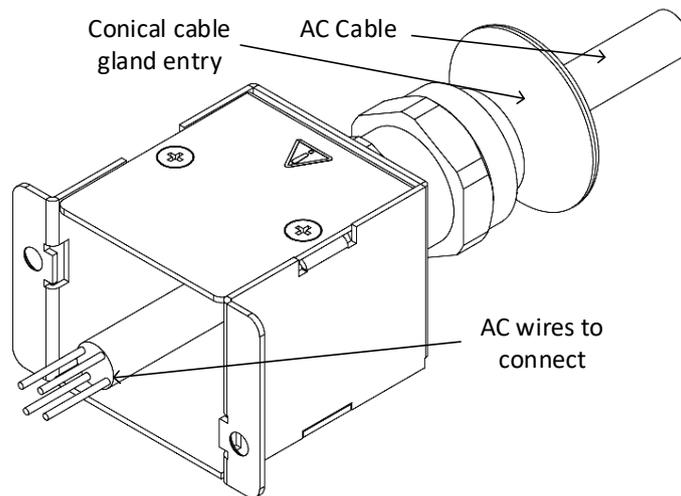

Figure 4-22: Stripped Wires Inserted Through
5. Insert the AC cable through the conic cable gland entry and the strain relief bracket as shown in Figure 4-22 (4-wires are shown for 3-Phase, it applies to 3-wires for 1-Phase as well).